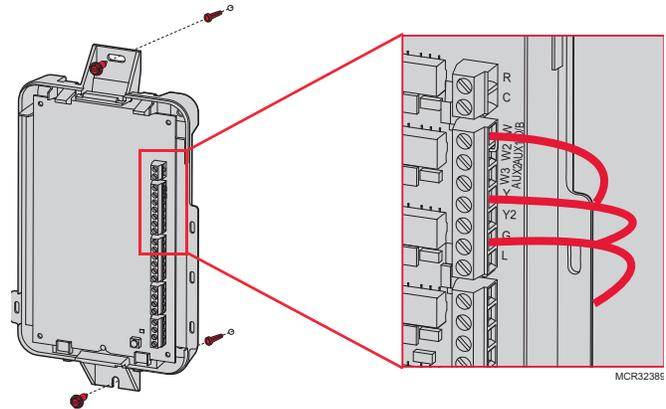

Fig. 9.
2. To wire the EIM, strip 1/4” insulation, then insert wires (see Fig. 9). For wiring diagrams, see “Wiring” beginning on page 138.